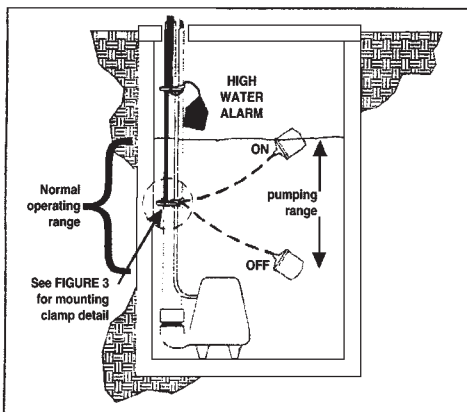

FIGURE 1 -SJE wide angle* float system
2. Determine your normal operating level as illustrated in Figure 1.